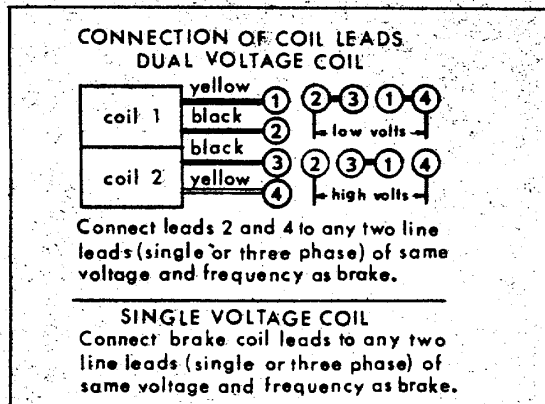

Figure 4. Wiring Diagram
2. Remove two cover screws (32) and cover (31) and position brake over hub on shaft. Bolt brake to motor flange or floor mount.
3. connect coil wire leads as shown in Figure 4. Replace cover and cover screws.